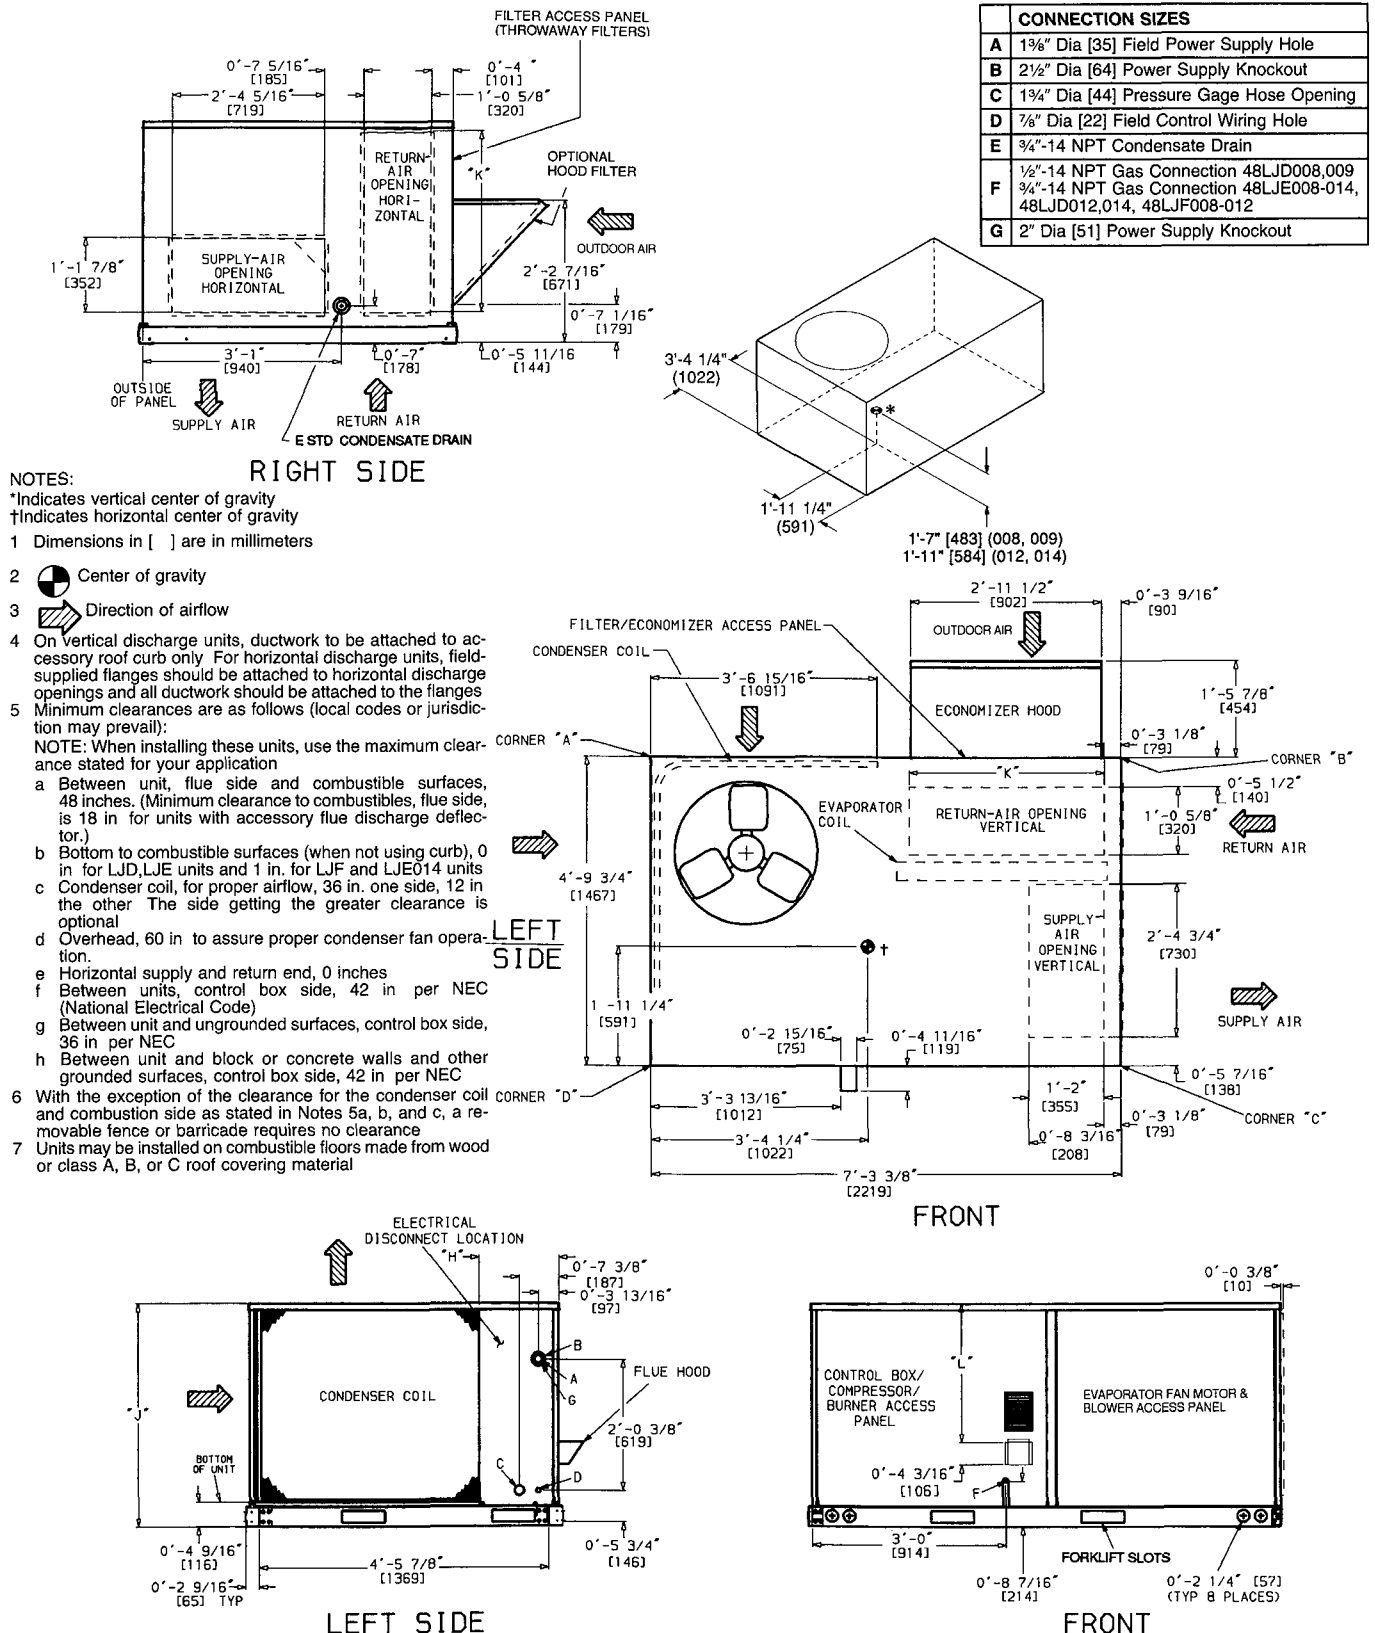

Fig. 6 – Base Unit Dimensions
Install conduit through side panel openings indicated in Fig. 6. Route power lines through connector to terminal connections as shown in Fig. 9.
2. Pass control wires through the hole provided on unit (see connection D in Connection Sizes table in Fig. 6).